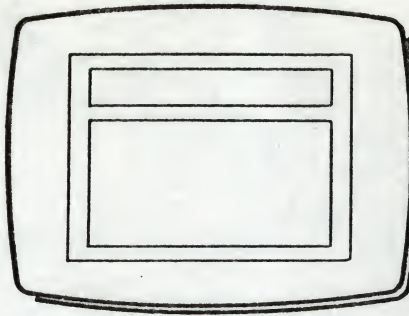

Fig 3
- 6 Now try erasing part of the drawing and then add new detail, (Fig 3).